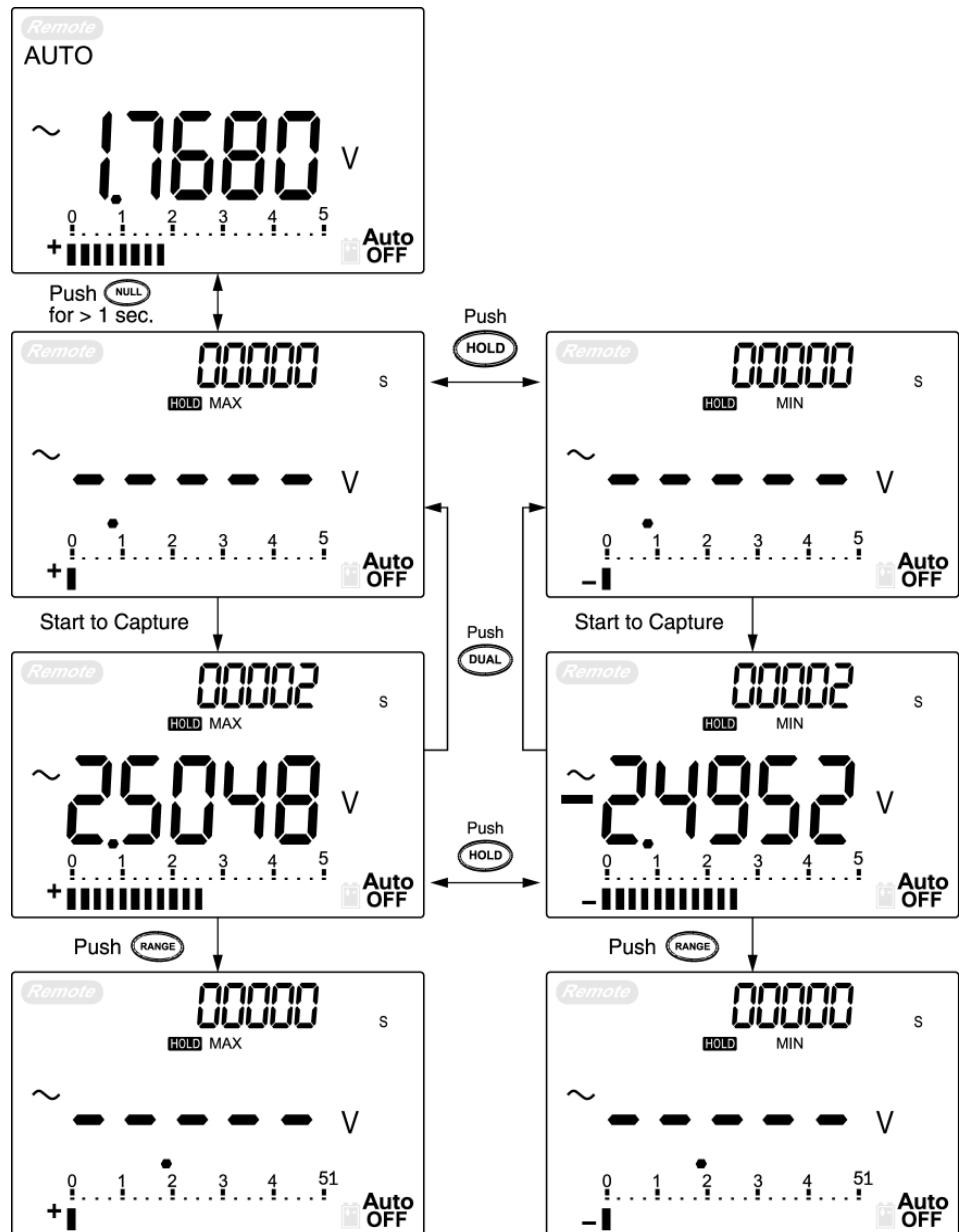

Figure 22 1 ms peak hold mode operation
- 4 According measurements in **Figure 22**, the crest Factor will be  $2.5048/1.768 = 1.416$ .